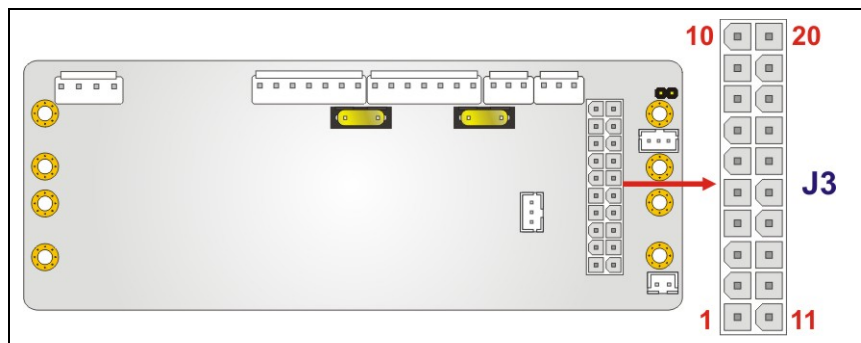

Figure 4-4: ATX Power Connector Location
- CN Location:** See Figure 4-4